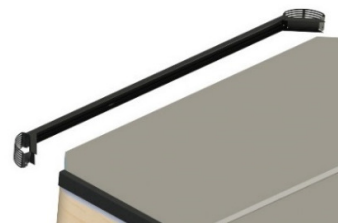

Figure 4
4. Remove the end C-channel with the corner bracket still attached to it. Put them in a safe place (Figure 4).